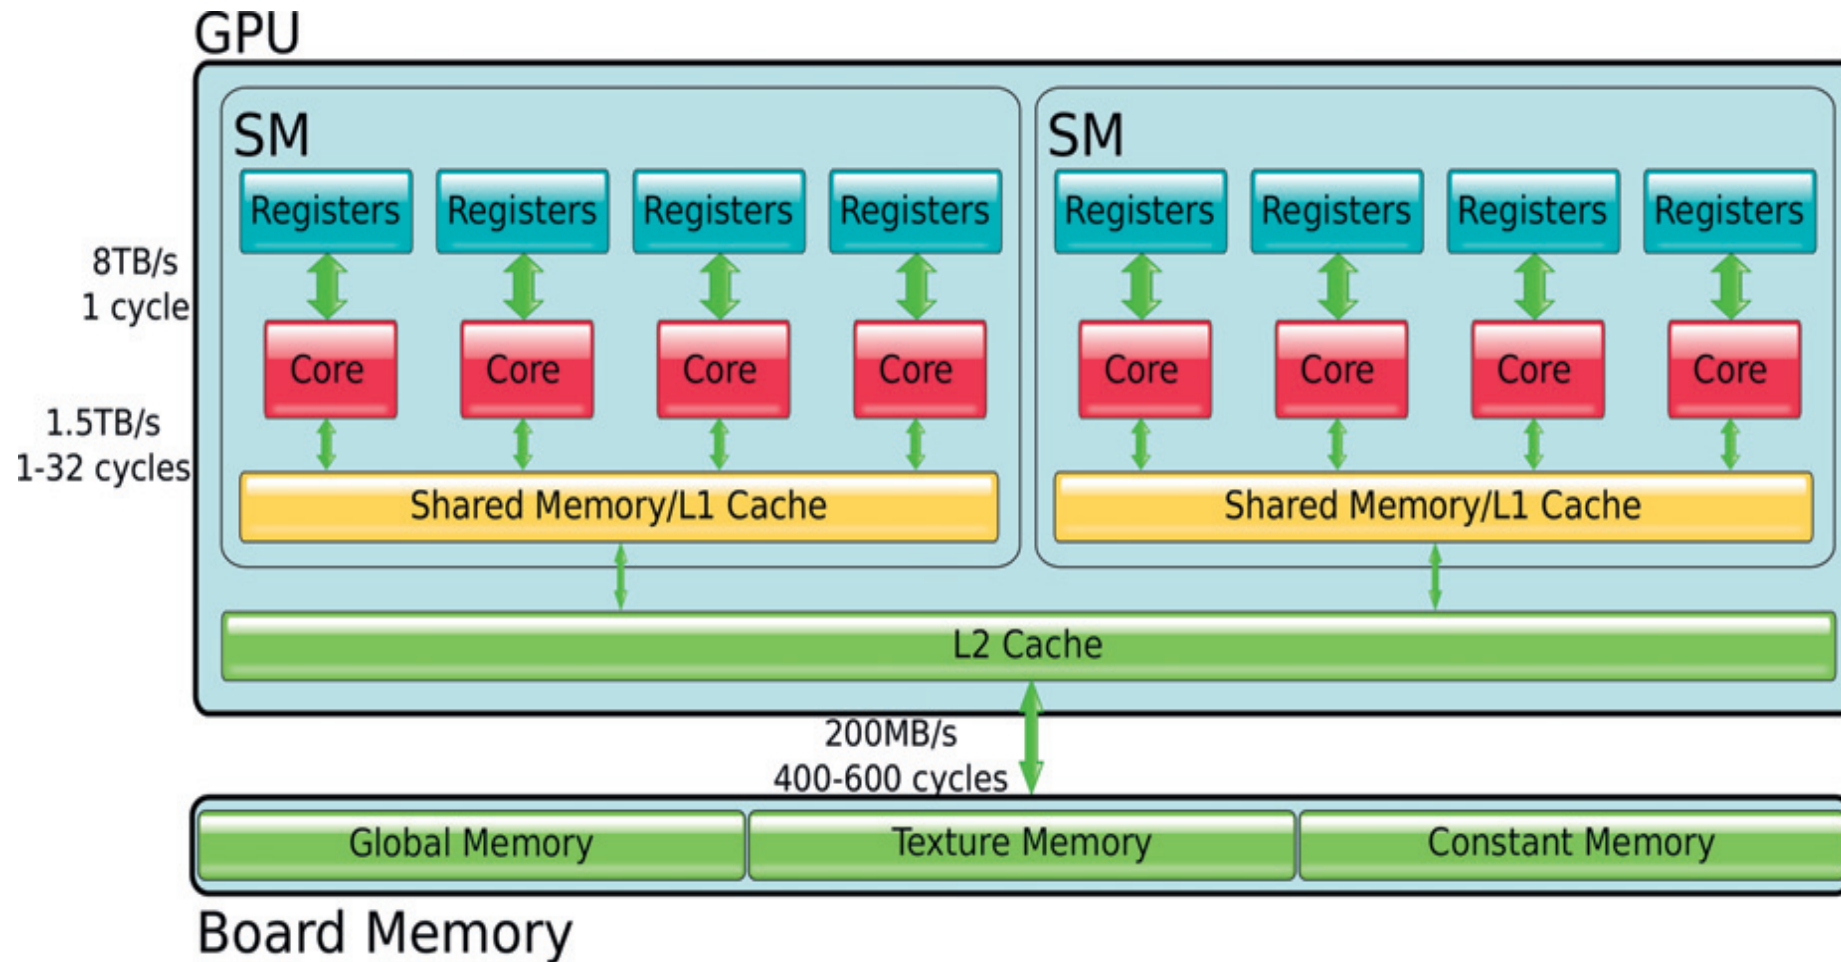

FIGURE 6.8
- GPUs also employ other types of memory, most of them residing on-chip and in separate address spaces. These, along with their typical performance characteristics, are illustrated in Figure 6.8